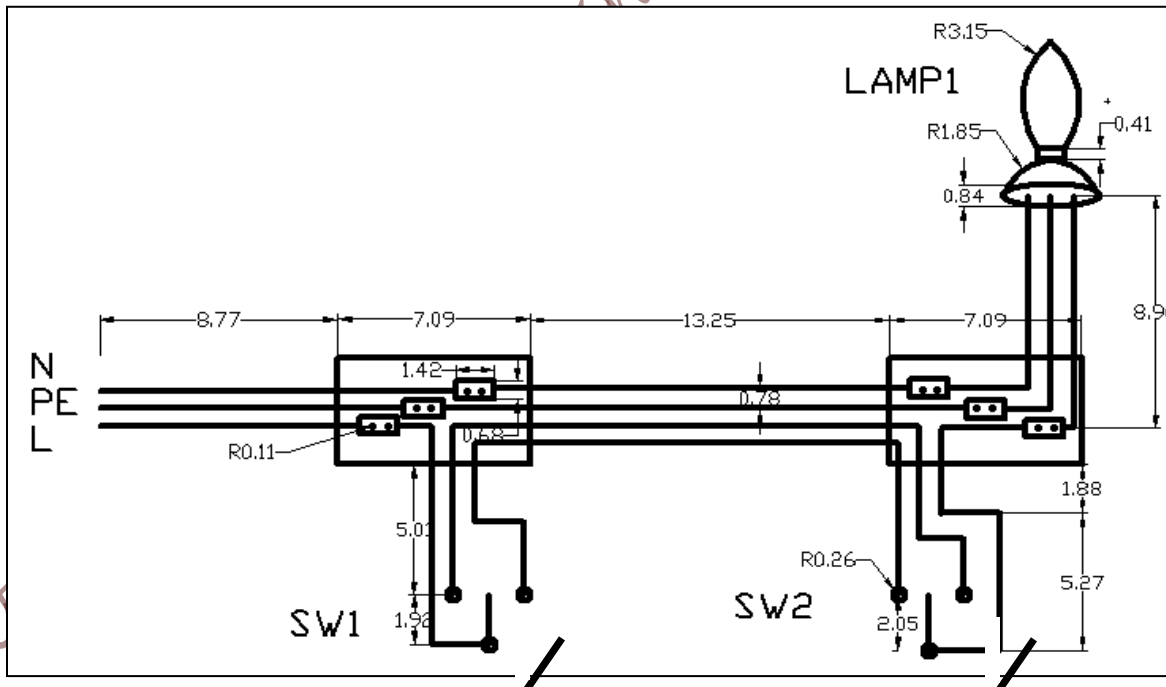

Figure 2.7 The Assembled (Wiring)-Diagram of Lamp lighting circuit
6. In the same sheet draw the circuit in Figure 2.7 which is the Current Flow Diagram of the pervious circuit.